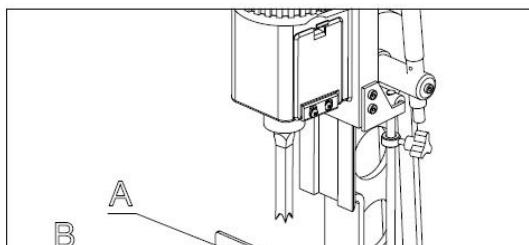

Fig. 5
The fence (A) Fig. 5, can be moved in or out by loosening lever (B), sliding fence to the desired position and tightening lever (B).